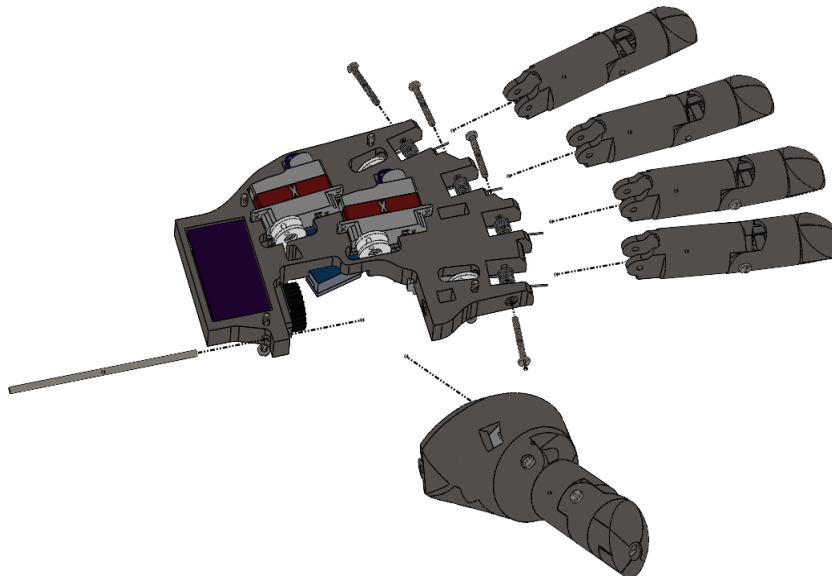

Figure 18: Digit attachment
1. General digit attachment to palm can be seen in **Figure 18**.